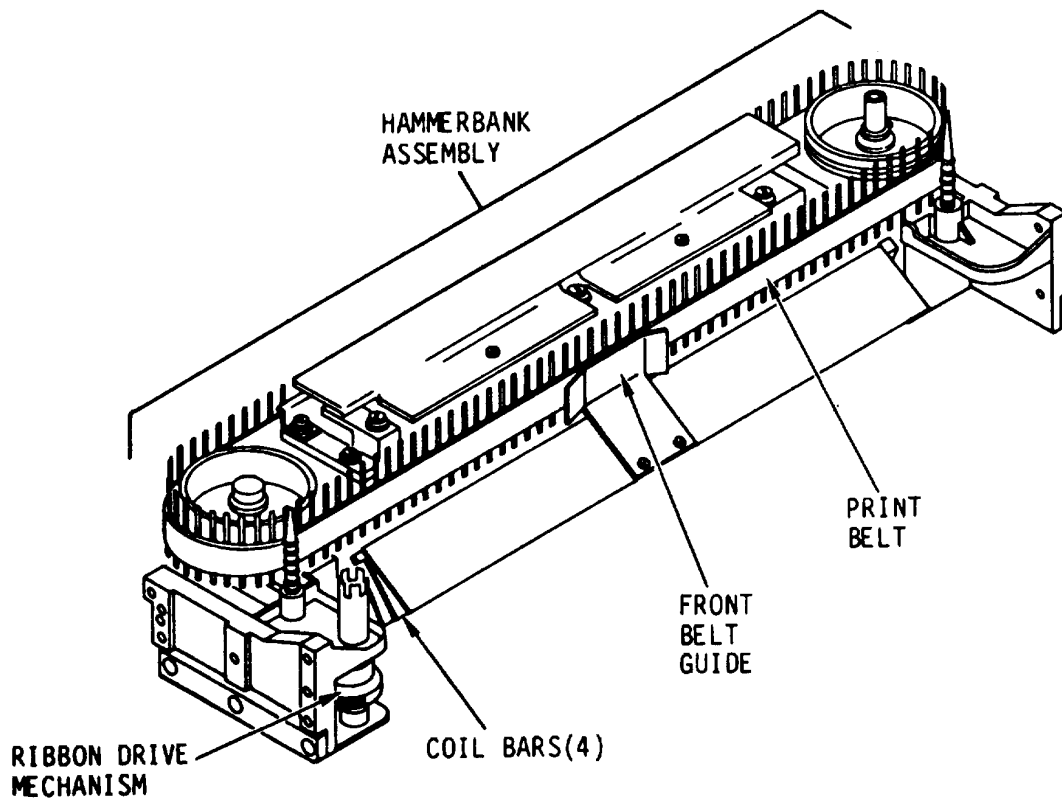

Figure 2-3. Ribbon Drive Mechanism
b. Ribbon Drive Mechanism. The left print belt pulley shaft drives the ribbon drive mechanism (fig. 2-3) through a series of reduction gears. The ribbon drive mechanism uses a clutch on the bottom end of its drive shaft to ensure only counter-clockwise movement of the shaft. A drive coupling on the top end of the drive shaft engages a hub in the ribbon cartridge. The hub is designed to break if the ribbon hangs up or jams.